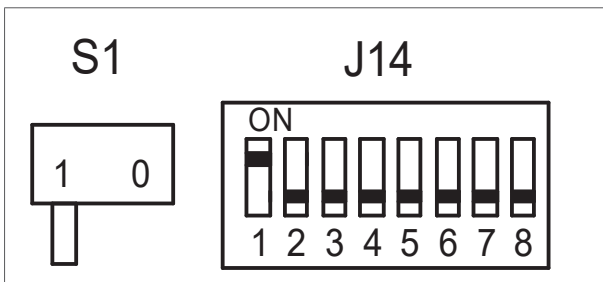

Figure 5 - Positions of the S1 and J14 switches
2. Set the S1 and J14 switches on the control unit as follows (figure 5 / 6):